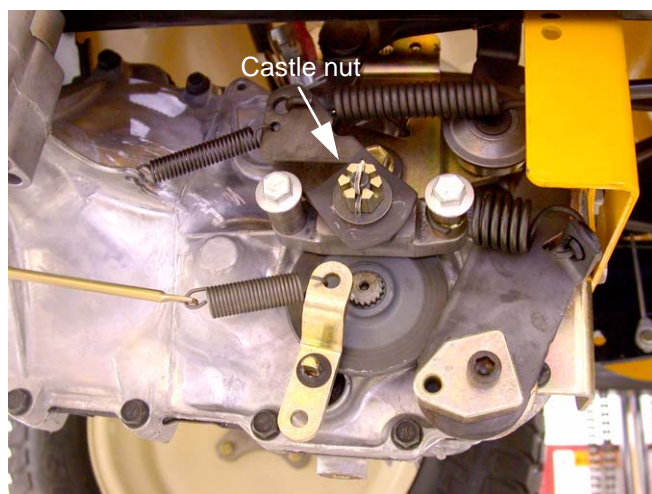

Figure 26.8
- 26.8. Hydro-Gear transaxles use a castle nut locked with a cotter pin. See Figure 26.8.